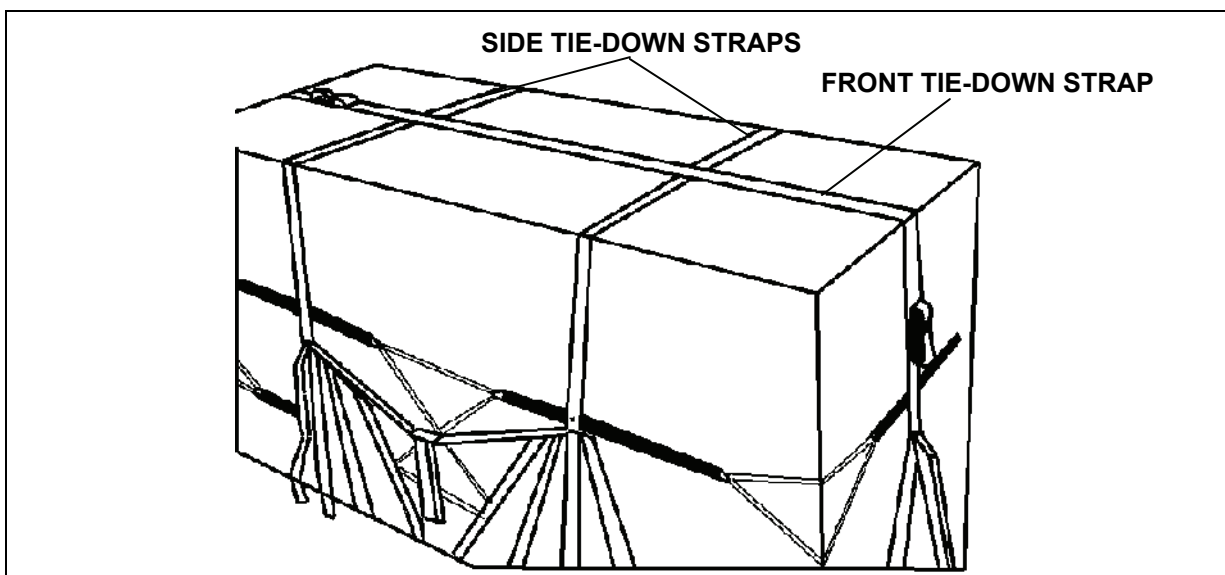

Figure 8-14. Front, Rear, and Side Tie-down Straps Installed
- Run the side tie-down straps through the friction adapters and apply tension to the straps. If necessary, attach a 36- or 60-inch nylon webbing strap to either the front or rear tie-down strap and route the running end through the friction adapter on the opposite end. Apply tension and fold and secure the excess strap with 1/4-inch, Type I cotton webbing (Figure 8-14).
- Run the side tie-down straps through the friction adapters and apply tension to the straps. If necessary, attach a 60-inch nylon webbing strap to either the front or rear tie-down strap and route the running end through the friction adapter on the opposite end. Apply tension and fold and secure the excess strap with 1/4-inch, Type I cotton webbing (Figure 8-14).